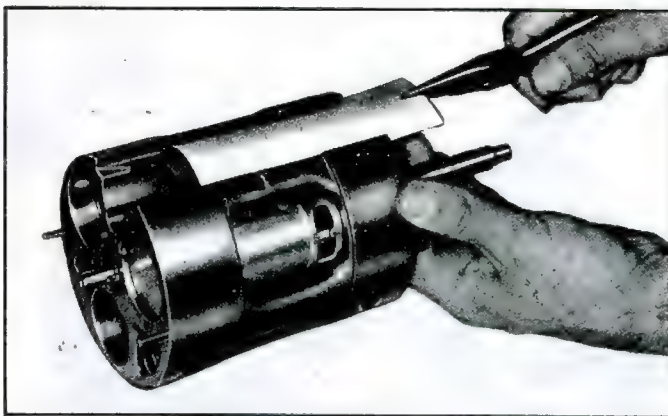

Fig. 46—Removing Suction Crossover Cover
6. Remove the suction crossover cover (fig. 46).